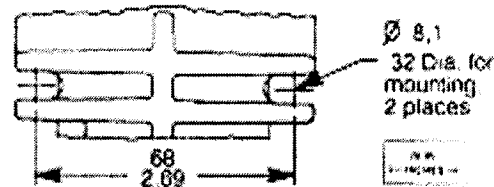

Figure 1. Mounting locations
4. Remove backing paper from range scale and install scale on the switch body behind adjusting nut. The scale is slotted to fit over a raised boss on the body. See Figure 1.
Figure 1 shows partial view of switch body for mounting dimensions.